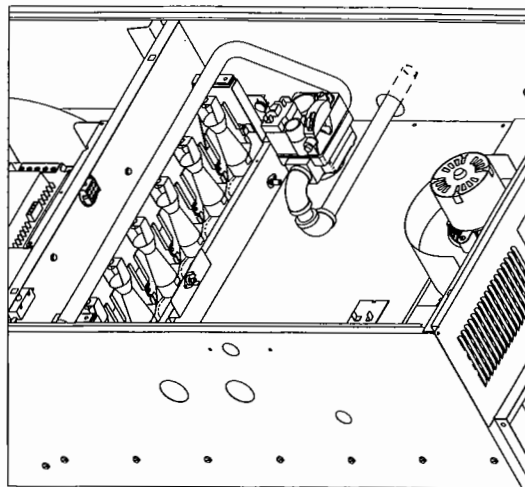

Fig. 5A - Gas Inlet Through Furnace Top Side
- Straight pipe to reach the exterior of the furnace. See Fig. 5A.